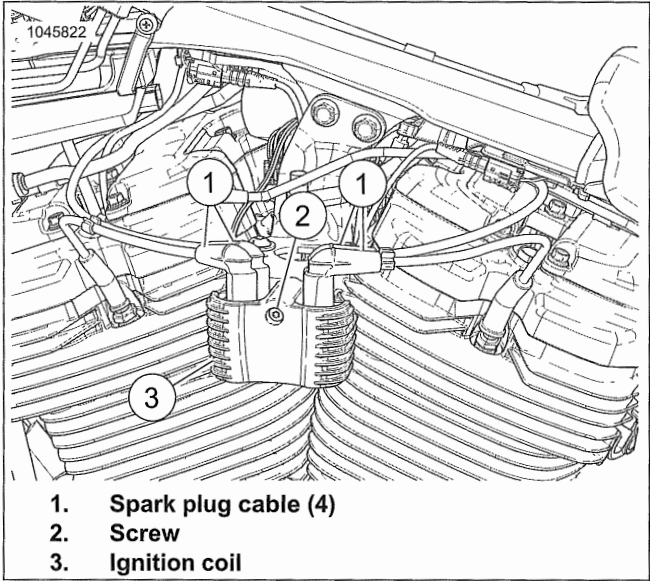

Figure 7-14. Ignition Coil
- 2. See Figure 7-14. Disconnect spark plug cables (1)
- 3. Remove screw (2).
- 4. Remove ignition coil (3).
- 1. See Figure 7-14. Install ignition coil (3).
- 2. Install screw (2). Tighten.